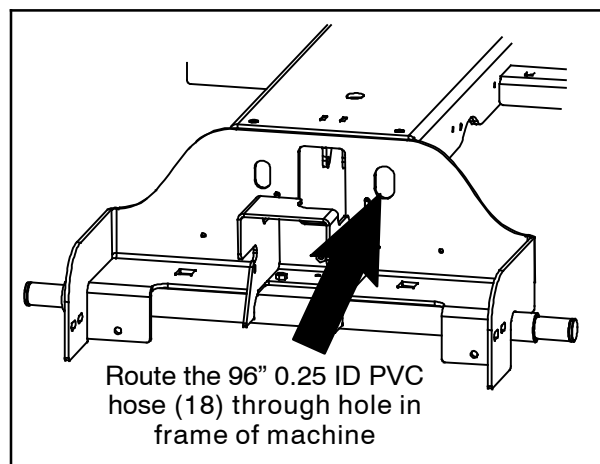

FIG. 6
- Route the 96" 0.25 ID PVC hose (18) through the hole in the frame of the machine and to the scrub head. (Fig. 6)